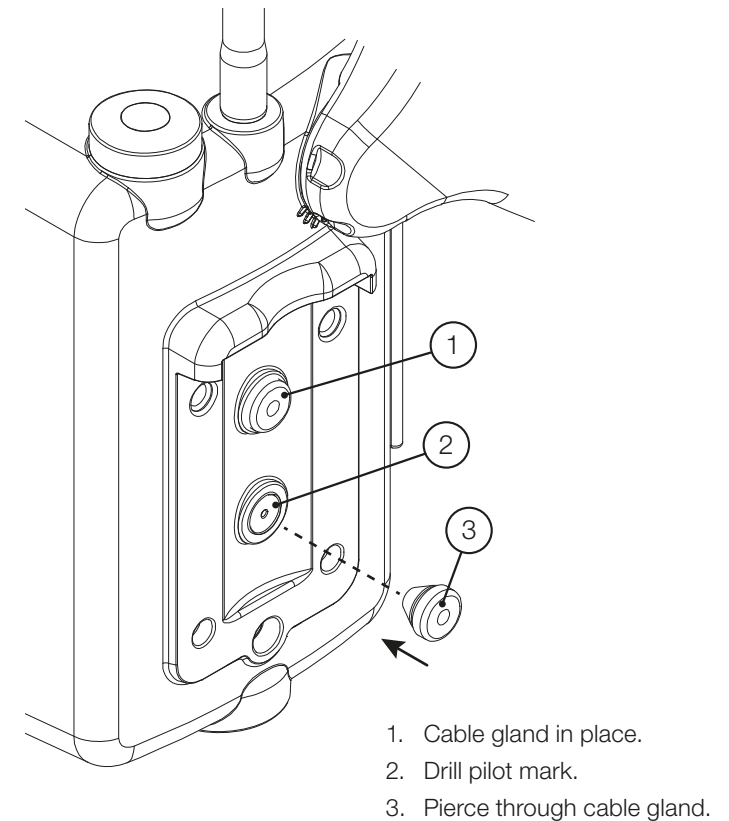

Figure 8. Optional Rear Entry Cable Glands
- Drill one or both cable entry holes in rear of solar enclosure using pilots marks and 16 mm drill or hole-saw (Figure 8, Item 2).
- Install the supplied pierce-through cable gland(s), flat side facing outward (Figure 8, Item 3).